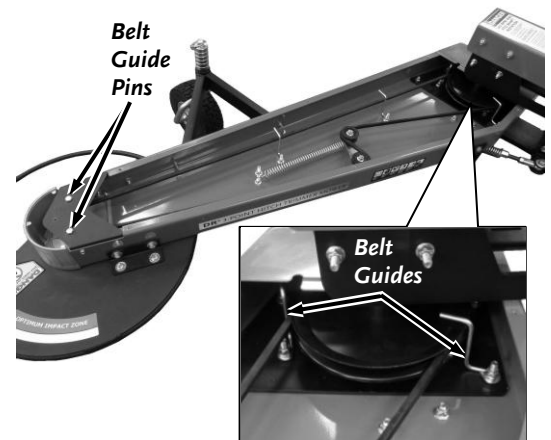

Figure 38
3. Remove the two Belt Guide Pins at the head of the Trimmer using two 9/16" Wrenches (**Figure 38**).